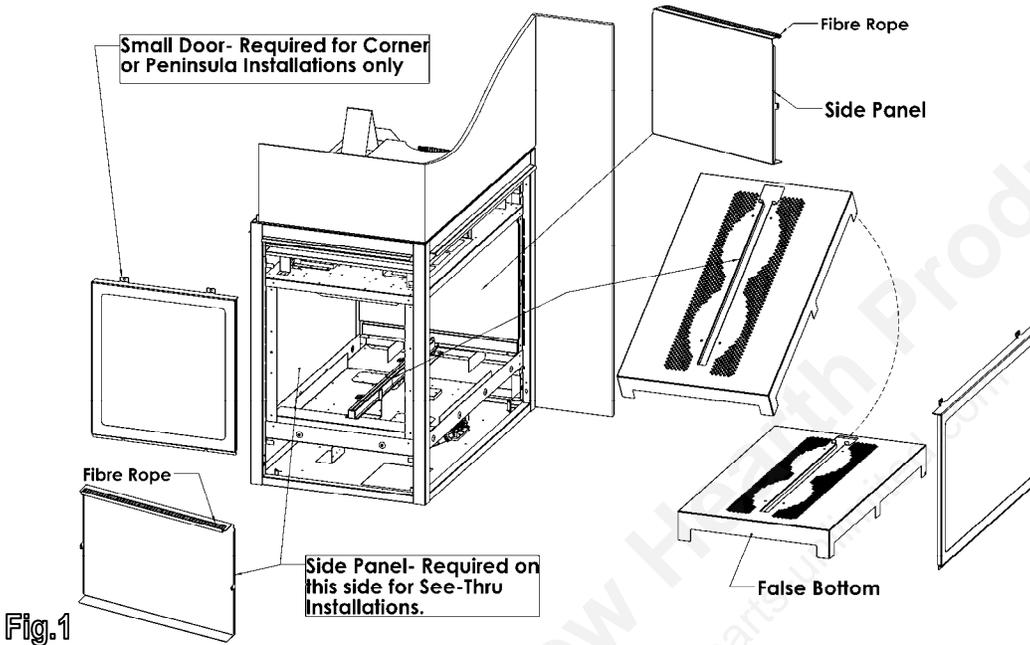

Fig.1
3. Remove screws from False Bottom and lift out of Firebox (See **Fig.1** below).